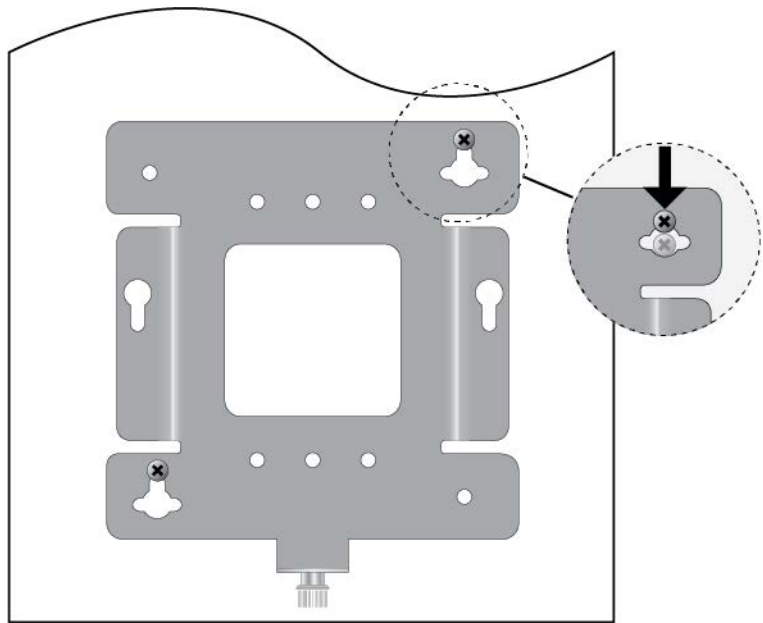

Figure 17. Installing the Mount Bracket On the Screws
6. Insert the openings of the bracket keyhole slots under the two screw heads and slide the bracket into the narrow end of the keyhole slot openings. See Figure 17.